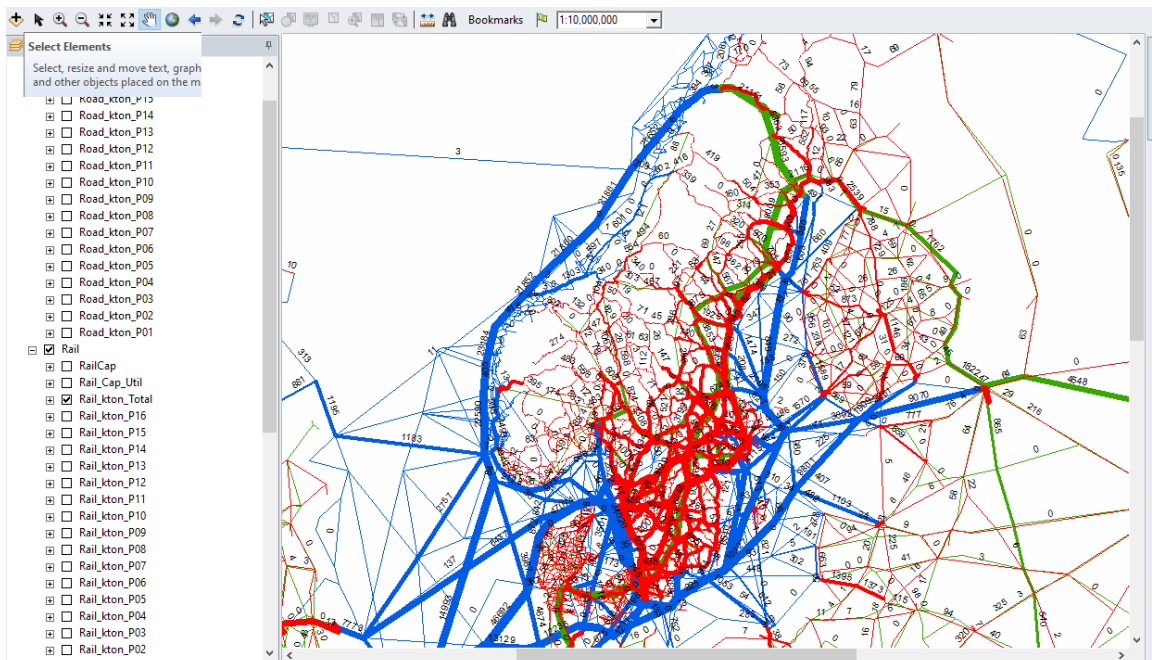
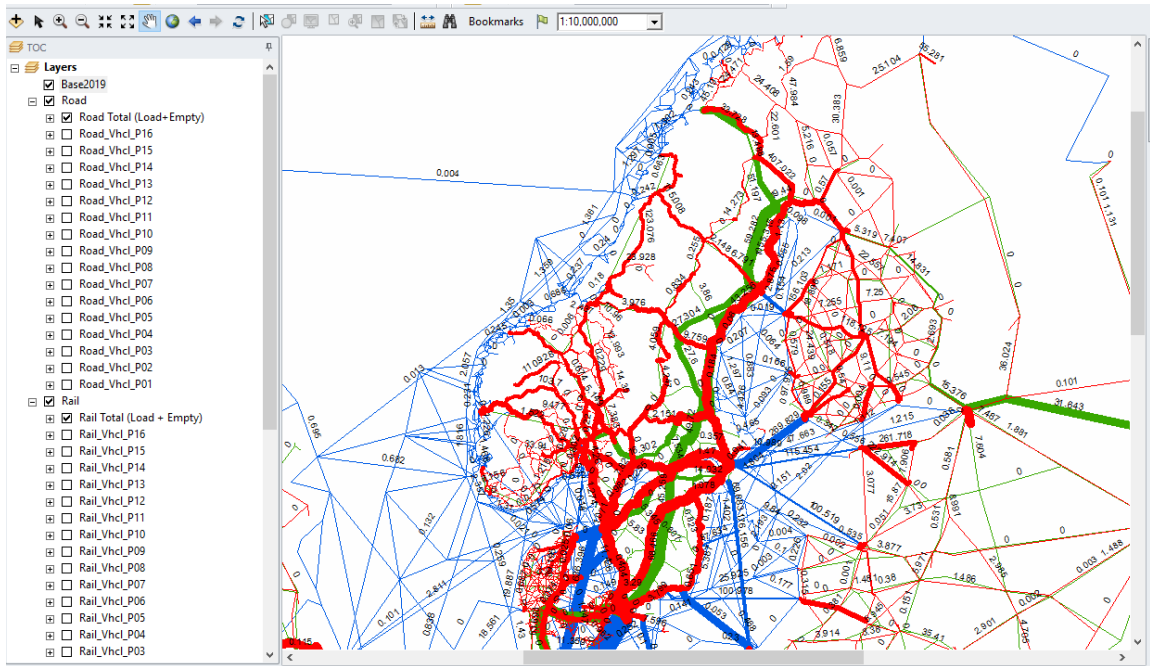

Figure 112 Standard map on ktons by total and commodity groups. (map name: Output_COM_STD_GIS_TON.mxd)
Figure 113 Standard map on Loaded vehicles by total and commodity groups. (map name: Output_COM_STD_GIS_VHCL.mxd)
- 2) Data Panel\Scenario Outputs\Samgods Report\GIS maps – for total Ktons and vehicles per commodity group, see Figure 112 and Figure 113.